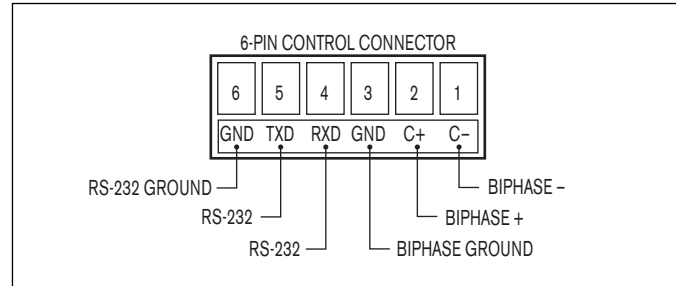

Figure 3 Head End Control
1. Unplug the 6-Pin CONTROL connector (FIGURE 3) from the AutoTracker module.